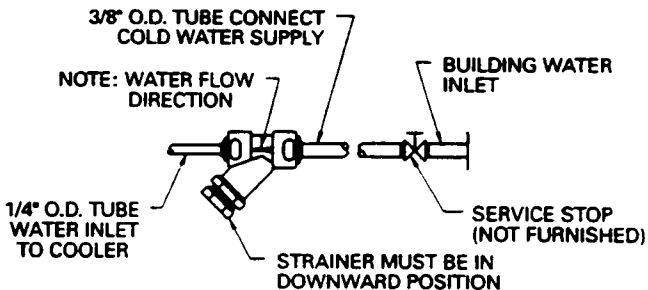
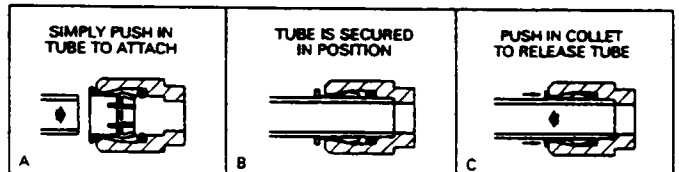

FIG. 1
FIG. 2
3. Connect fountain to building supply line with a shut-off valve and install a 3/4" water line between the valve and the fountain. Remove any burrs from outside of water line. Loosen nut on inlet side of "Y" strainer (see Fig.1) and insert water line to a positive stop - approx. 3/4". (see Fig.2) Finger tighten nut to lock tubing in place. (see Fig.1)
Actuation of Quick Connect Water Fittings: Fountain is provided with lead-free connectors which utilize an o-ring water seal. To remove tubing from the fitting, relieve water pressure, push in on the gray collar while pulling on the tubing. (see Fig. 2) To insert tubing, push tube straight into fitting until it reaches a positive stop, approximately 3/4".